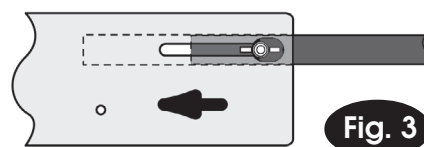

Fig. 3
**NOTE:** ONLY the Top and Bottom plates are adjustable, and can be easily removed from assembly by simply loosening the wing screw and sliding the plate in direction of arrow (Fig. 3) this allows the wing screw to pass through keyhole.